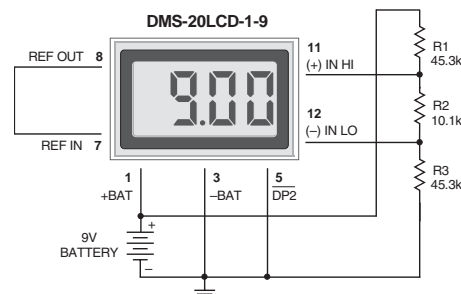

Figure 8. Power Supply Monitor (9V-Powered Models)
6. **Power Supply Monitoring:** A popular application for DATEL's low-power LCD meters is monitoring the supply voltage in battery-operated portable equipment. Figure 8 demonstrates how a 9V-powered DMS-20LCD can be used to monitor its own supply. The meter used is the DMS-20LCD-1-9. A three-resistor voltage divider is used to attenuate the battery voltage and also to satisfy the requirement that the input voltages applied to pins 12 and 11 be at least 1.5 Volts above and below the battery voltage applied to pins 1 (+BATTERY) and 3 (-BATTERY). The divider should be designed so that 1/10th the battery voltage falls across the inputs to the meter: